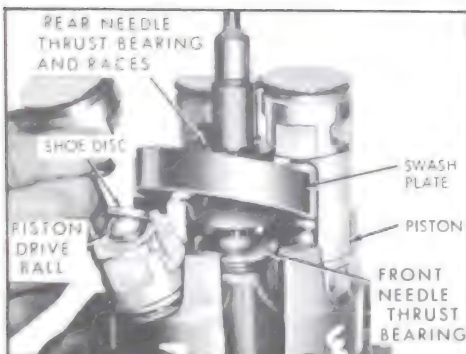
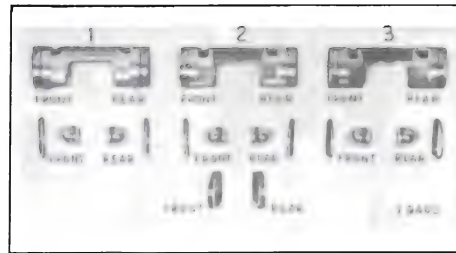

Figure 11-126—Removing Piston Assembly
Figure 11-127—Parts Tray J-9402
7. Rotate shaft until a piston is at its highest point. Push up on shaft and remove one piston assembly at a time. See Figure 11-126. Place parts in parts tray to keep them separated. See Figure 11-127.